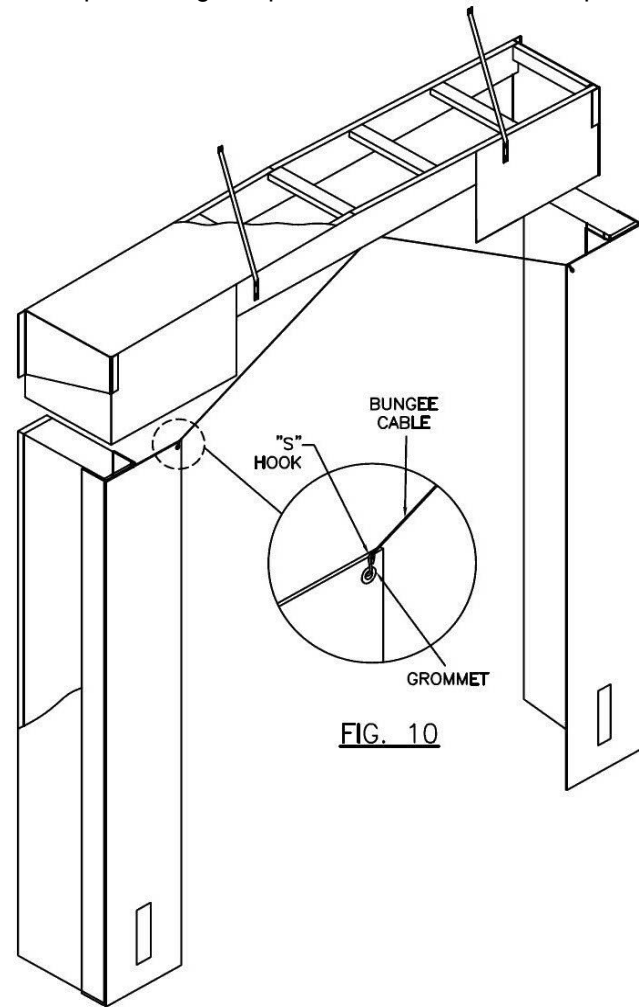

FIG. 10
- iv. Attach the Bungee Cables to the Removable Inward Panel by hooking the "S" Hook through the Grommets at the top corners of the left and right Removable Inward Panels (**Fig.10**).